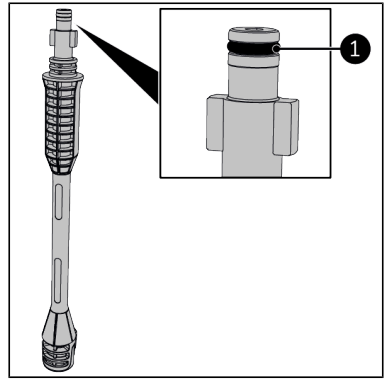

Figure 38.
6. Apply Vaseline to the O-ring of the lance extension (Figure 38, pos. 1).